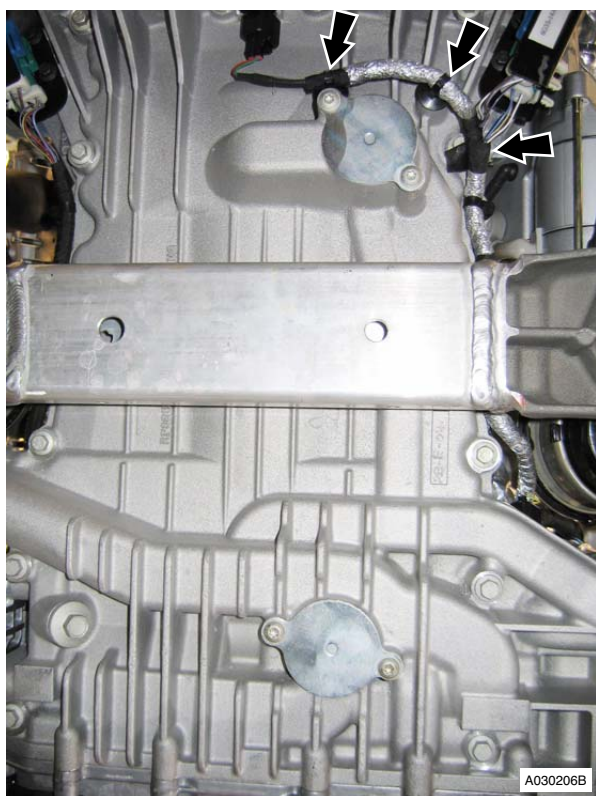

Figure 8
16. Release harness clips (x6) from sump (see Figure 8).